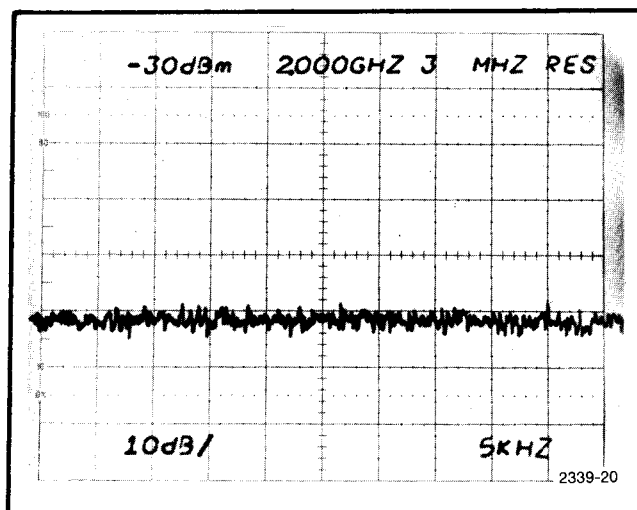

Fig. 4-6. Measuring Average Noise Level as an Indication of Sensitivity.
c. Check—noise level below the  $-30$  dBm reference level (see Fig. 4-6). Must not exceed  $-79$  dBm (see Table 4-5).